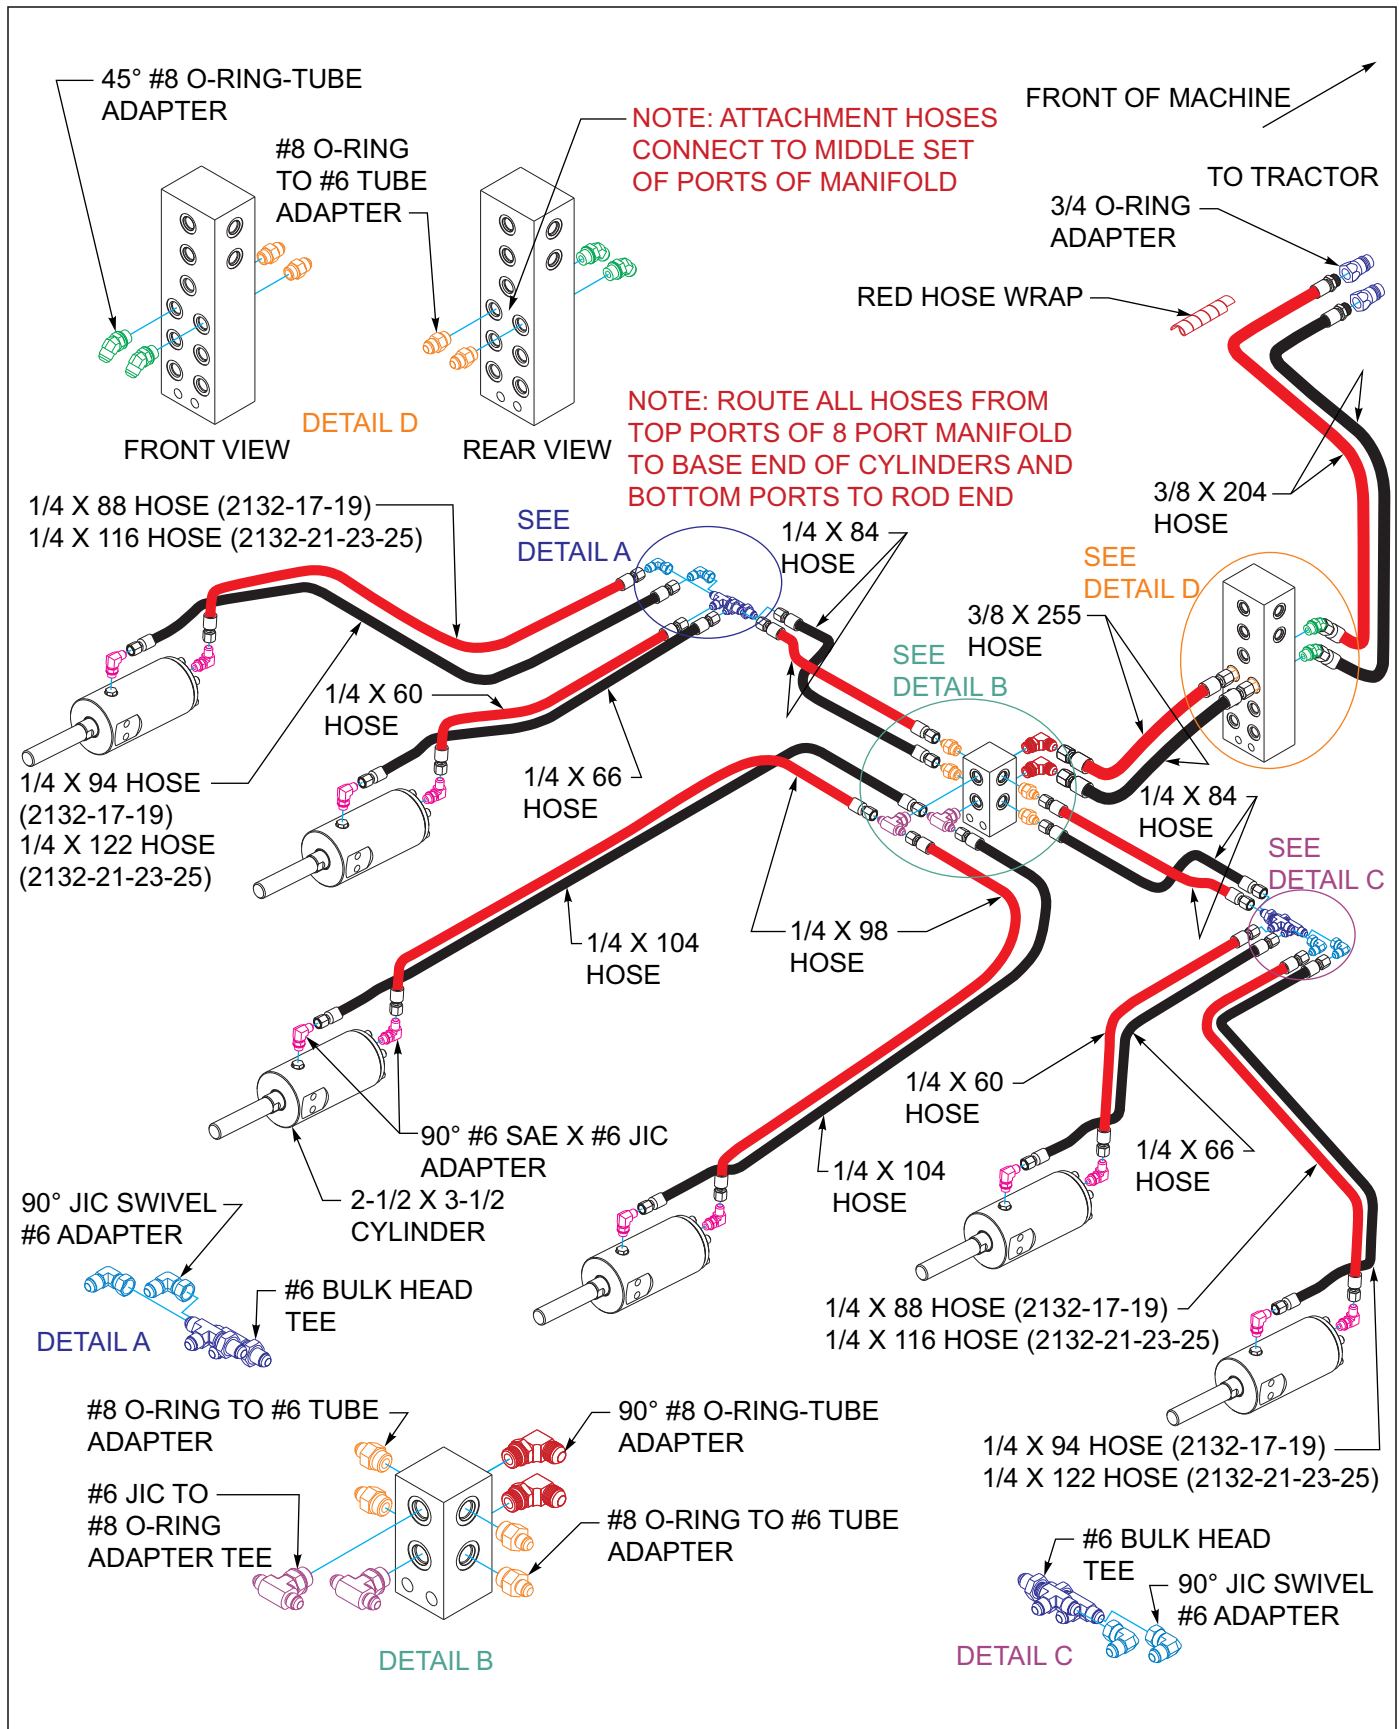
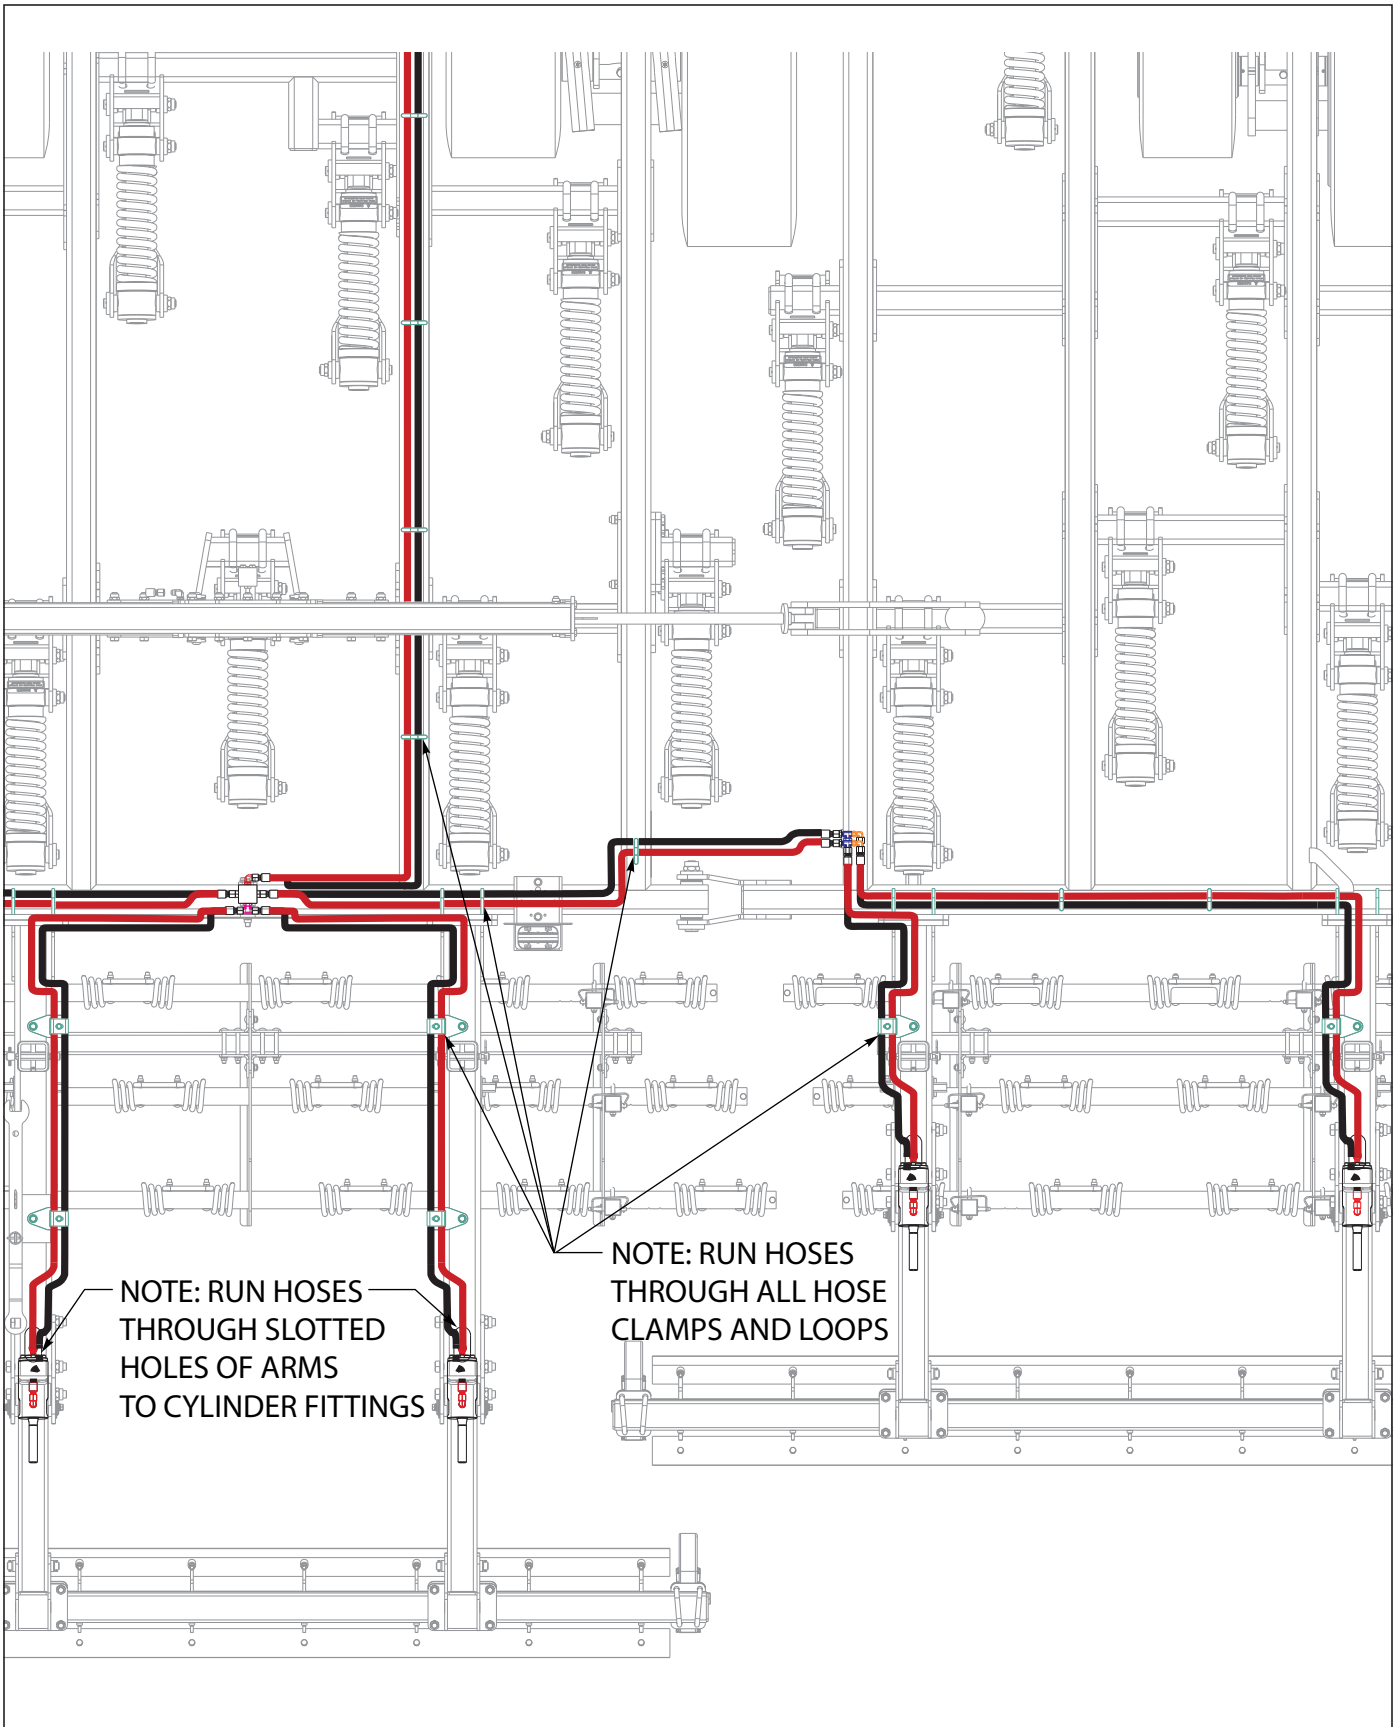

Figure 3-28: 3BCT/Chopper Hydraulic Installation
Figure 3-30: 3BCT/Chopper Hydraulic Layout RH
11. On hydraulic 3BCT/Chopper Reel option, See Figures 3-28 through See Figures 3-30 for proper hydraulic installation.